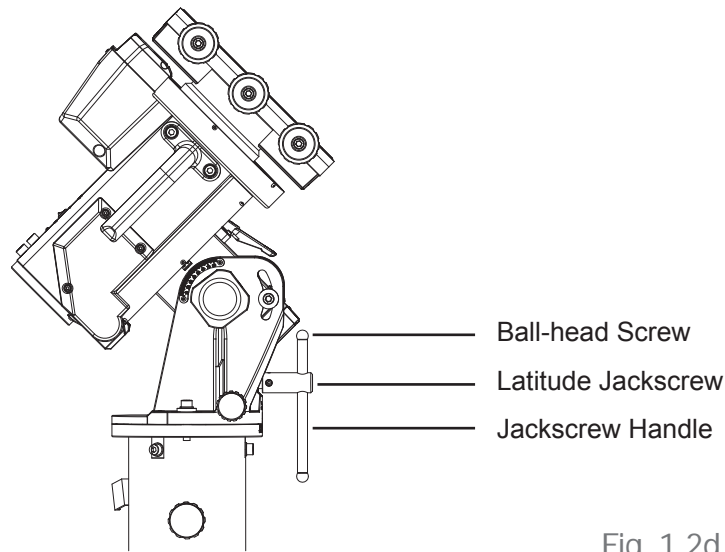

Fig. 1.2d
- Slide the jackscrew handle in the hole at the end of the latitude jackscrew's shaft. Apply two ball head screws on the handle. (Fig. 1.2d)